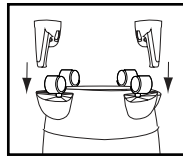

FIGURE 8
8. With tank inlet facing you, attach hose holder **A** to caster foot **A**, and hose holder **B** to caster foot **B**. **FIGURE 8.**